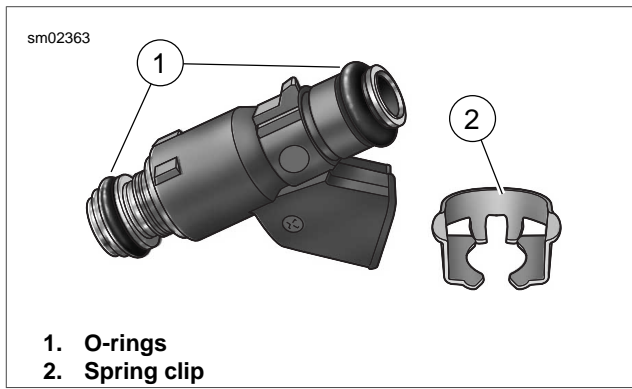

Figure 4-32. Fuel Injector
5. See Figure 4-32. Remove spring clips (2) from fuel injectors. Pull fuel injectors from fuel rail. To overcome the resistance of the top O-ring, gently rock each fuel injector while pulling.
6. Remove o-rings (1) from fuel injectors. Discard O-rings.
1. See Figure 4-32. Apply a thin coat of clean engine oil to **new** fuel injector o-rings (1). Install on fuel injectors.